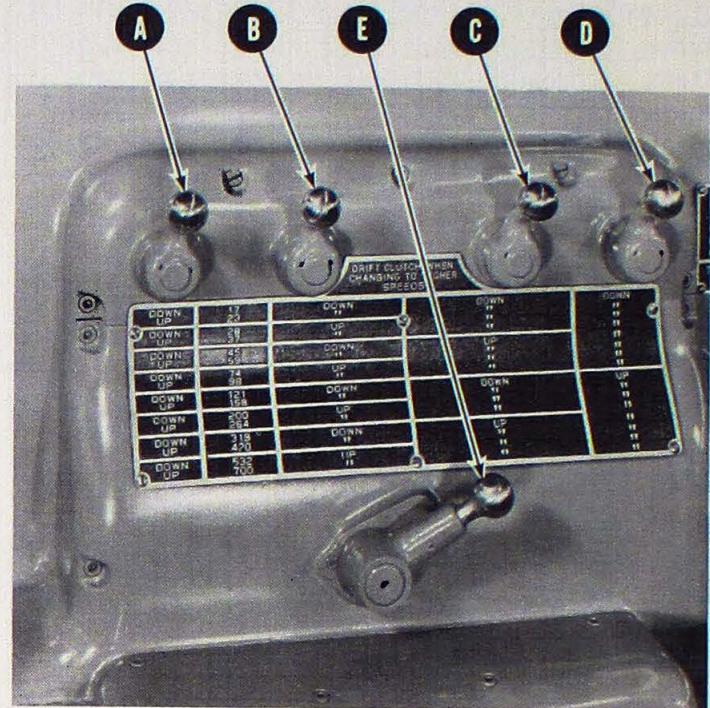

FIGURE 3 — Headstock Speed Change Levers
On the front of the headstock are four levers for obtaining the entire range of sixteen spindle speeds. See (A), (B), (C) and (D), Figure 3. Immediately below the lever is the spindle speed chart showing the lever positions for each speed. Levers, (A) and (C) rotate left; (B) and (D) rotate right in shifting. Avoid undue strain and